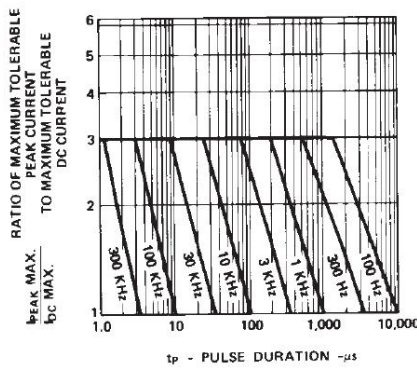

Figure 5. Maximum tolerable peak current vs. pulse duration. (I_{DC} MAX as per MAX ratings)
1. See Figure 5 (HER/Orange), 10 (Yellow), or 15 (Green/Emerald Green) to establish pulsed operating conditions.